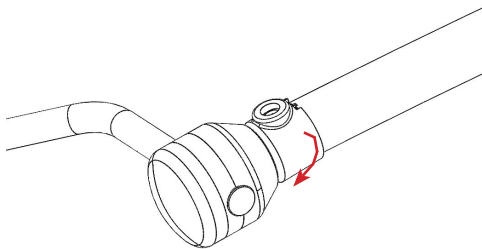

FIGURE 2.32 - Rotate Sleeve
STEP 6: Rotate the sleeve to secure the key in place, tighten the sleeve lock screw. Refer to FIGURE 2.32 and 2.33